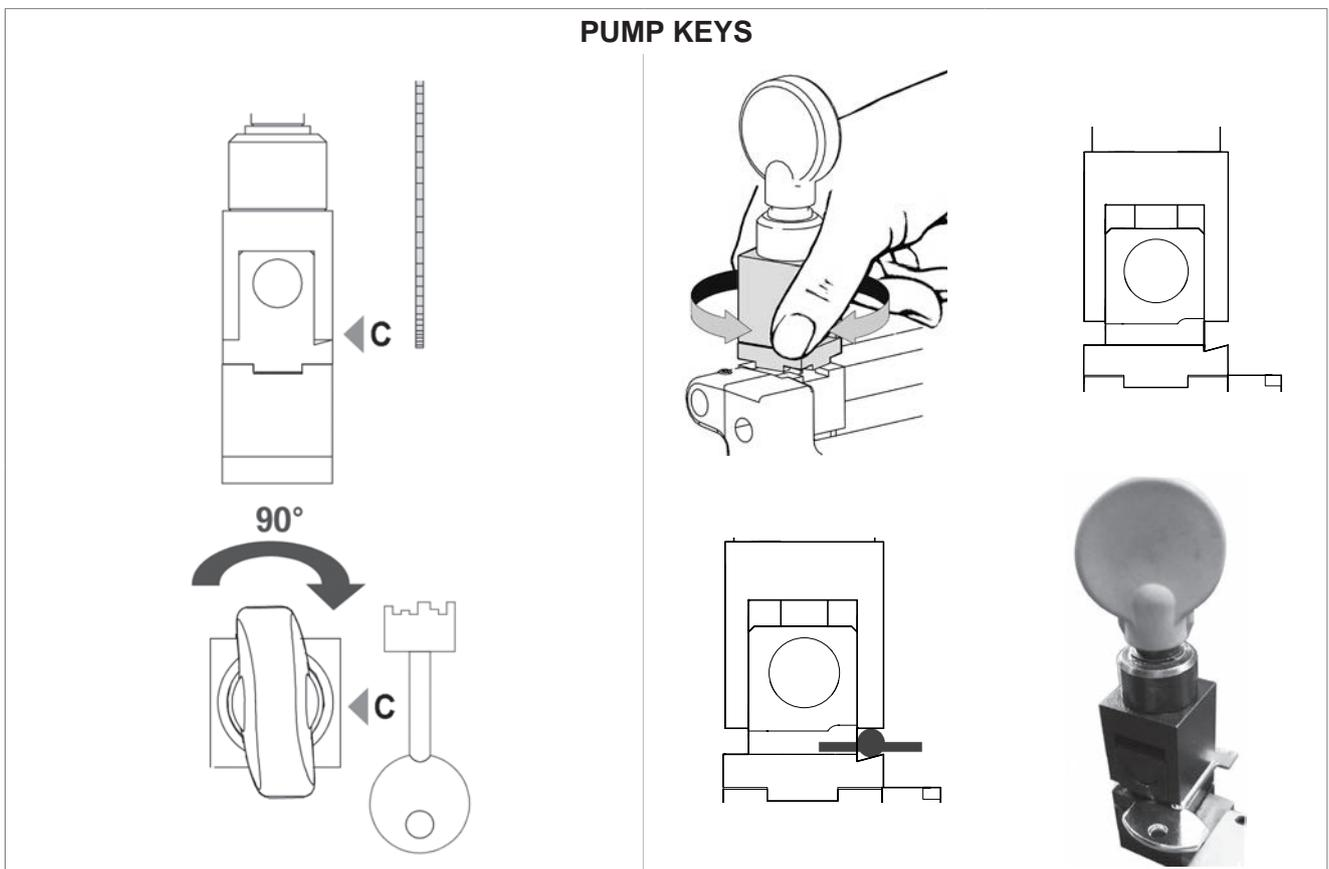
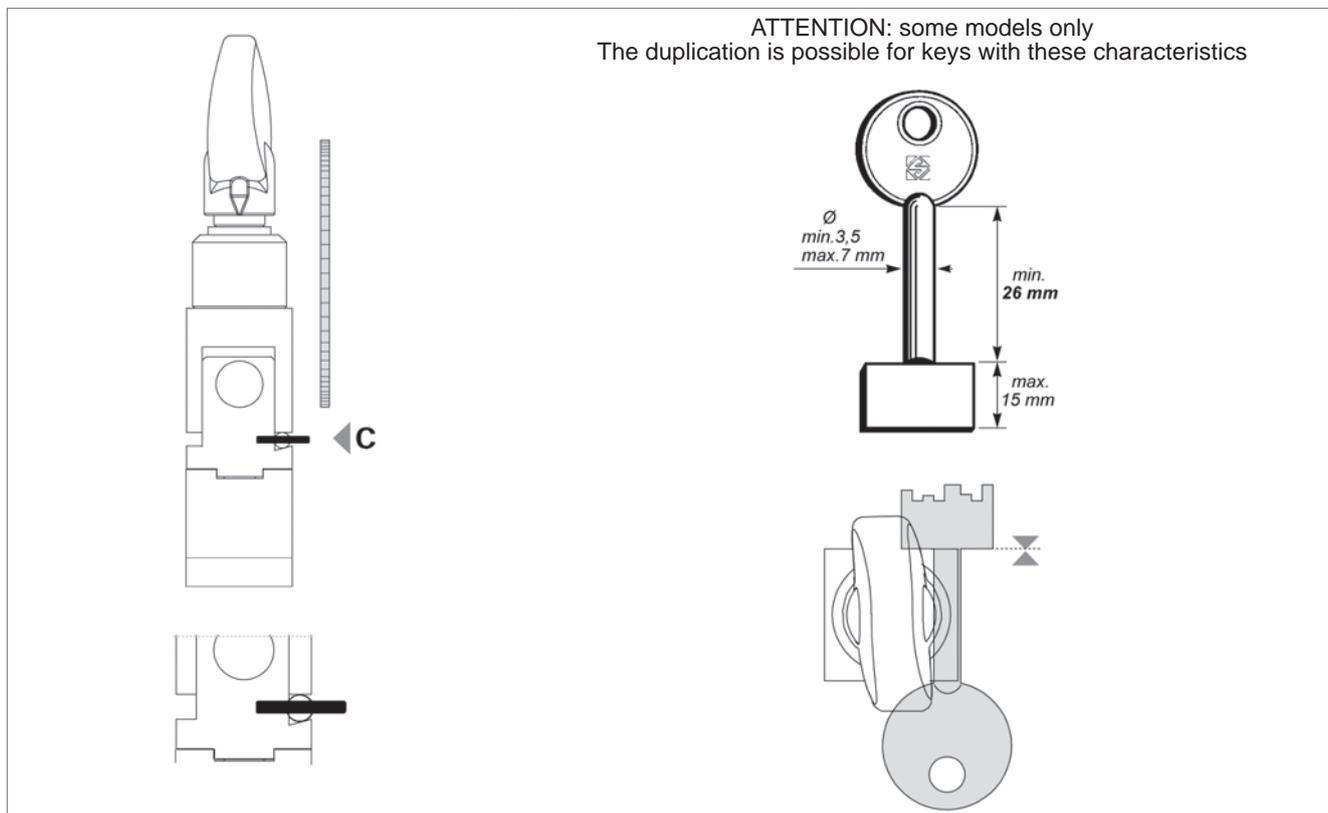

Fig. 27
Fig. 36
- Clamp side for pump keys (position C - turned 90°) (Fig. 27)
ATTENTION: some models only (see Fig. 36).
- 1) Prepare the clamps with the bit key jaw turned 90° (Fig. 27 and Fig. 36).
- 5) Start the machine with switch (K) and proceed with cutting.
- 6) Move the carriage with the lever (A) and take the cut key into contact with the tracer point and push the carriage all the way.
- 7) Take the carriage back with the lever (A), go on to the next cutting position and continue from point 6.
- 8) When cutting is finished, turn off the switch (K) and remove the keys.